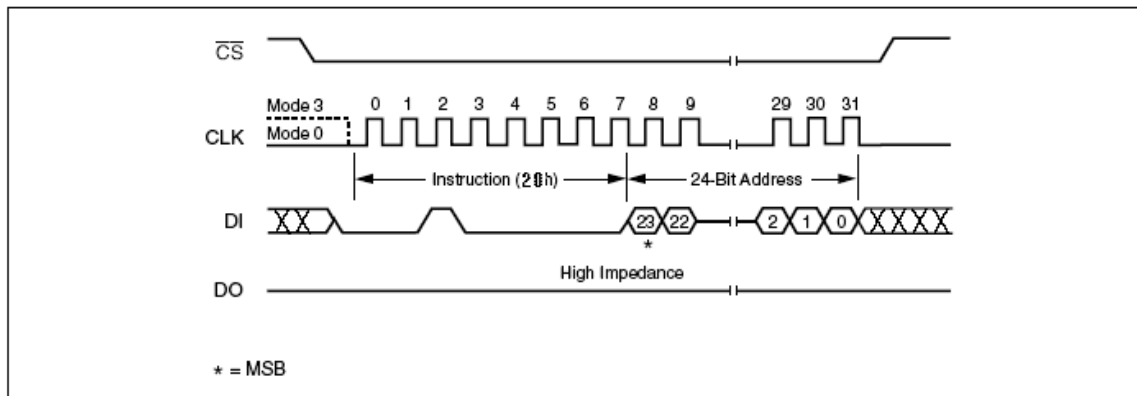

Figure 12. Sector Erase Instruction Sequence Diagram
The instruction sequence is shown in Figure 12. Chip Select (CS#) must be driven High after the eighth bit of the last address byte has been latched in, otherwise the Sector Erase (SE) instruction is not executed. As soon as Chip Select (CS#) is driven High, the self-timed Sector Erase cycle (whose duration is t_{SE}) is initiated. While the Sector Erase cycle is in progress, the Status Register may be read to check the value of the Write In Progress (WIP) bit. The Write In Progress (WIP) bit is